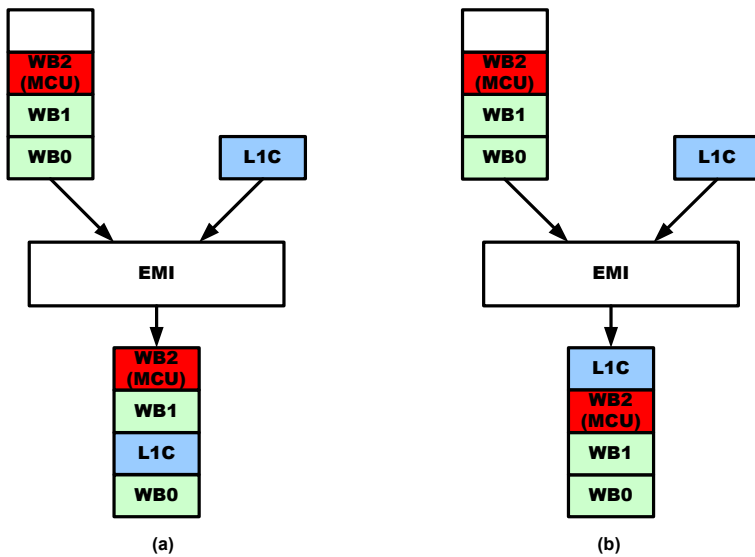

Figure 28 Data Consistency Problem for Cacheable RW
If read-write (RW) data is set as code cache cacheable, data inconsistency may occur. Consider a write request (WB2) followed by a read request (L1C) with the same memory address, both issued by the MCU (**Figure 28 (a)**). The write data (WB2) is queued in the data cache’s write buffer, and the read request is forwarded directly to the EMI. Because the write buffer queue contains other data ahead of WB2, WB2 is actually written to target memory after L1C has been executed. Therefore, the MCU receives outdated data, and the consistency problem occurs.
The data cache provides an Flush Buffer Before Read (FBBR) mode that allows RW data to be set as code cache cacheable without compromising data consistency. When in FBBR mode, MCU read requests are not issued to the EMI until the write buffer is empty. This suspension of the read request prevents it from being executed before the write request and solves the data consistency problem. **Figure 28(b)** shows L1C executed after WB2.